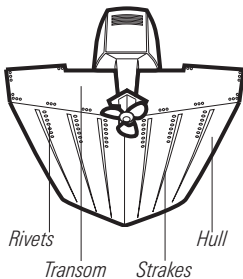

Figure 9
- The best way to locate turbulence-free water is to view the transom while the boat is moving. This method is recommended if maximum high-speed operation is a high priority. If this is not possible, select a location on the transom where the hull forward of this location is smooth, flat, and free of protrusions or ribs (Figure 9).